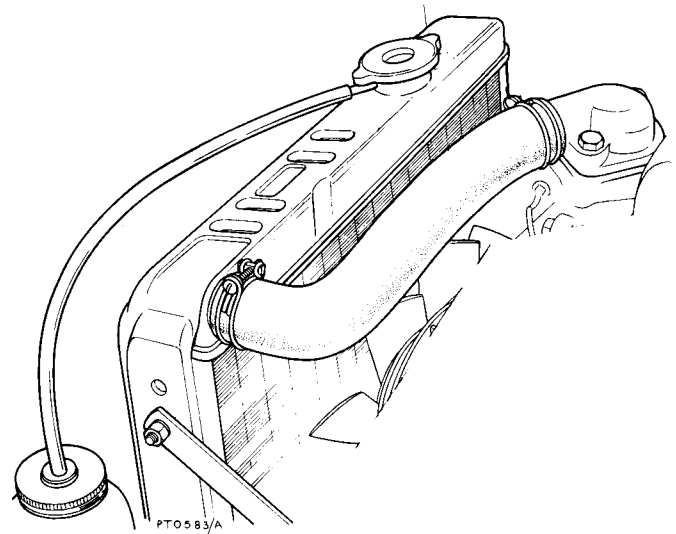

Fig. 1
To drain the system, move the heat control (23) page 10 to the hot position, lift the bonnet and disconnect the water hose at the bottom right hand side of the radiator before removing the radiator cap (Fig. 1).
Reconnect the bottom radiator hose, open the heat control (23) page 10 and remove the radiator cap (Fig. 1). Fill the cooling system with clean (soft) water and run the engine at approximately 1,500 r.p.m. for one or two minutes. Stop the engine and top up the radiator. Replace the radiator cap and half fill the plastic overflow reservoir with clean (soft) water.